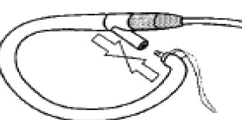

Fig. 4-6D
5. Close the loop by holding the fabric directly behind the release tab and pushing the snap into the receptacle on the "Y" connect. (See Figure 4-6D)